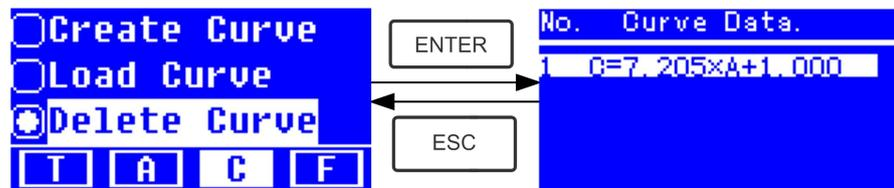

Fig. 4-15
- ★ Move the cursor on "Delete Curve" and press to confirm. Then the system goes into the curve equation choosing interface. (Fig. 4-15)